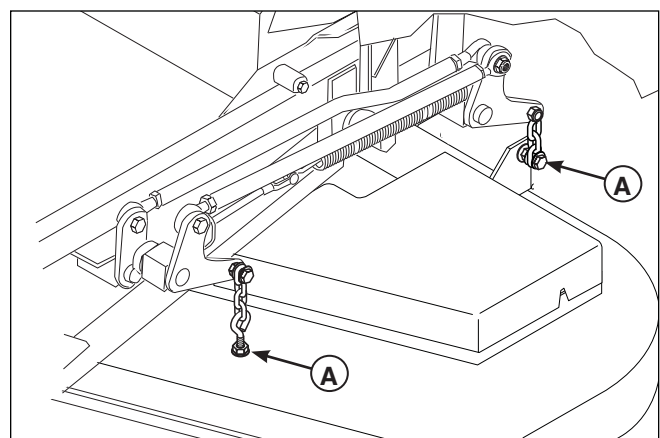

Figure 54. Hanger Chain Adjustment
4. Adjust the front eyebolts until the chains are tight and the deck is still resting on the 2 x 4's. Tighten the jam nuts. See Figure 54.
5. Loosen the nuts and allow the rear of the deck to rest on the 2 x 4's. Slide the chains down in the slots until the chains are tight and tighten the nuts. See Figure 54.